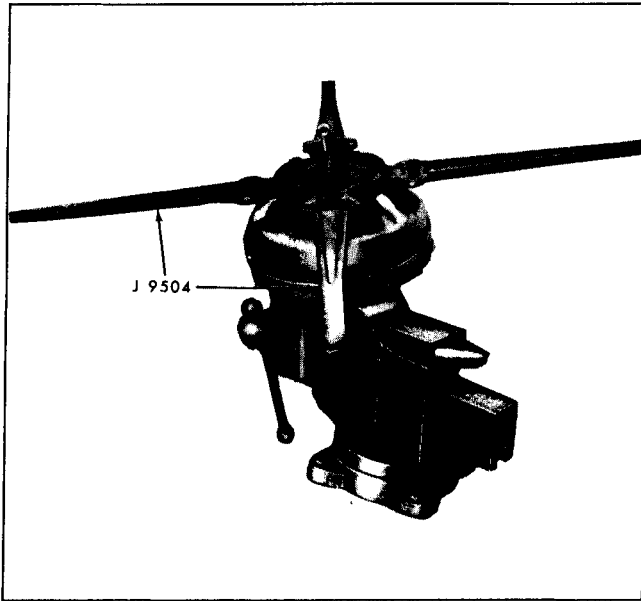

Fig. 5D-20 Securing Rear Housing to Tools
8. Slowly compress assembly keeping in a parallel plane (Fig. 5D-21).